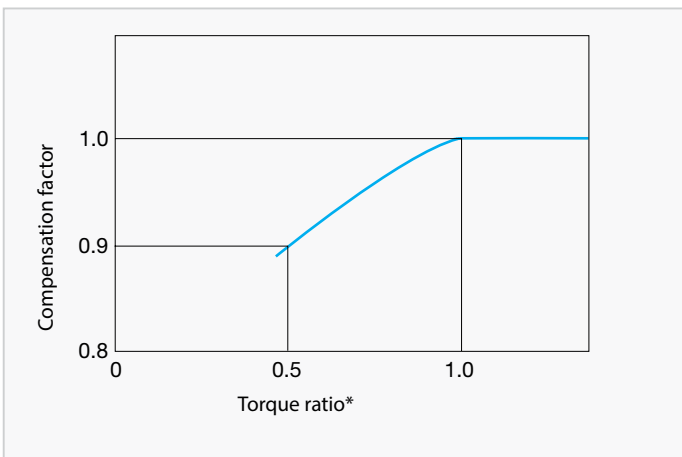

Fig. C3 Compensation curve for efficiency
1. The efficiency changes if the load torque does not match the nominal torque. Check the compensation factor in the diagram Fig. C3.
2. When the torque ratio is over 1.0, the compensation factor for efficiency is 1.0 (diagram Fig. C3).